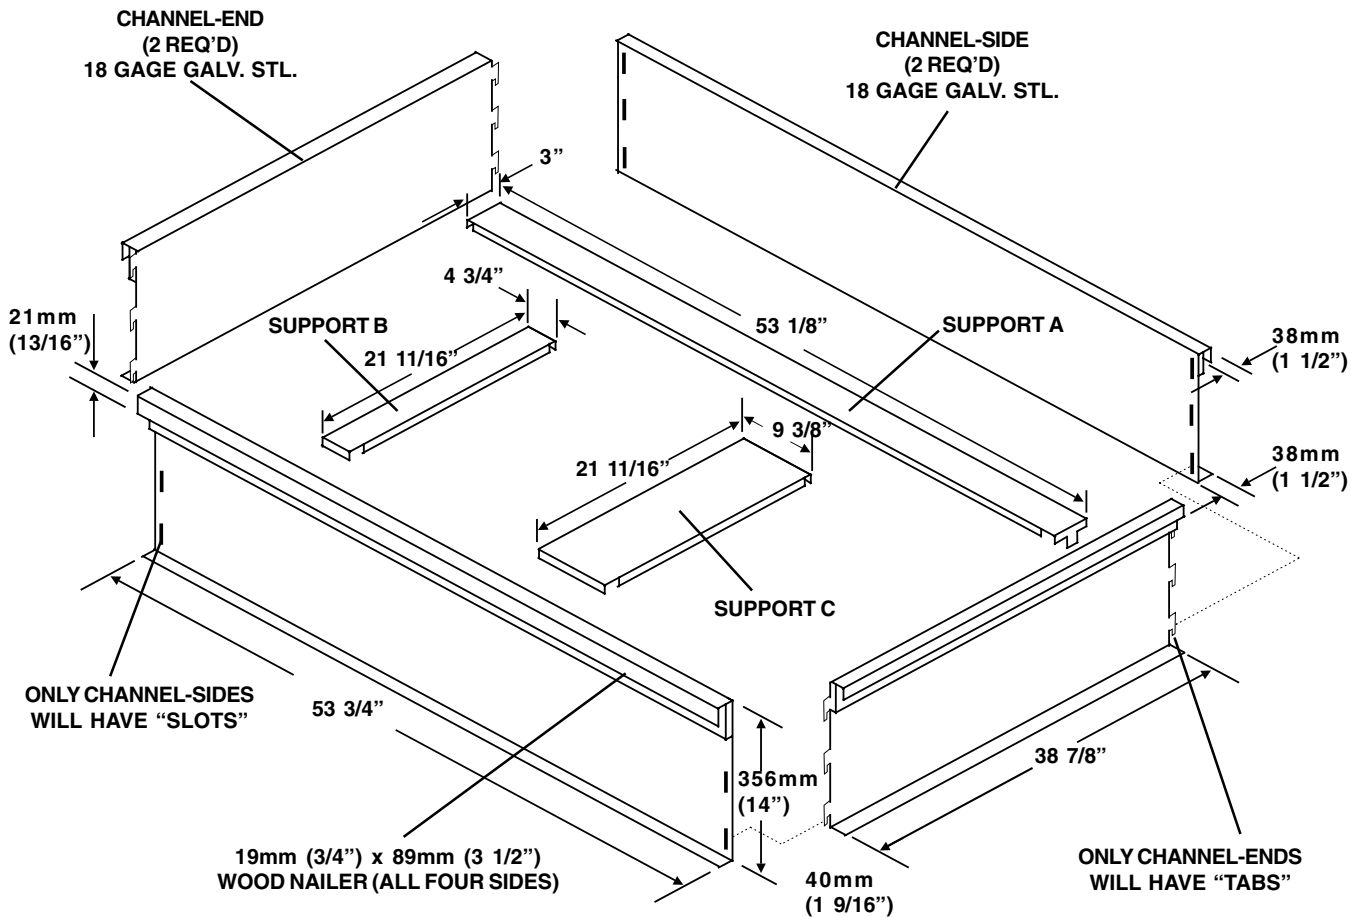

Figure 4. BAYCURB051A Component Drawing
4. See Figure 4, page 4, for components of curb.
3. Set supports A, B, and C onto channel sides and channel ends as shown in Figure 4 (below).